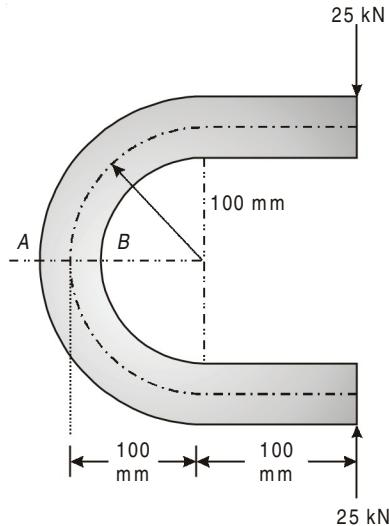

Fig. 11.21
- 11.5.** A curved bar of circular cross-section having diameter 100 mm is loaded as shown in Fig. 11.21 Find the maximum and minimum stress intensities at the critical section.